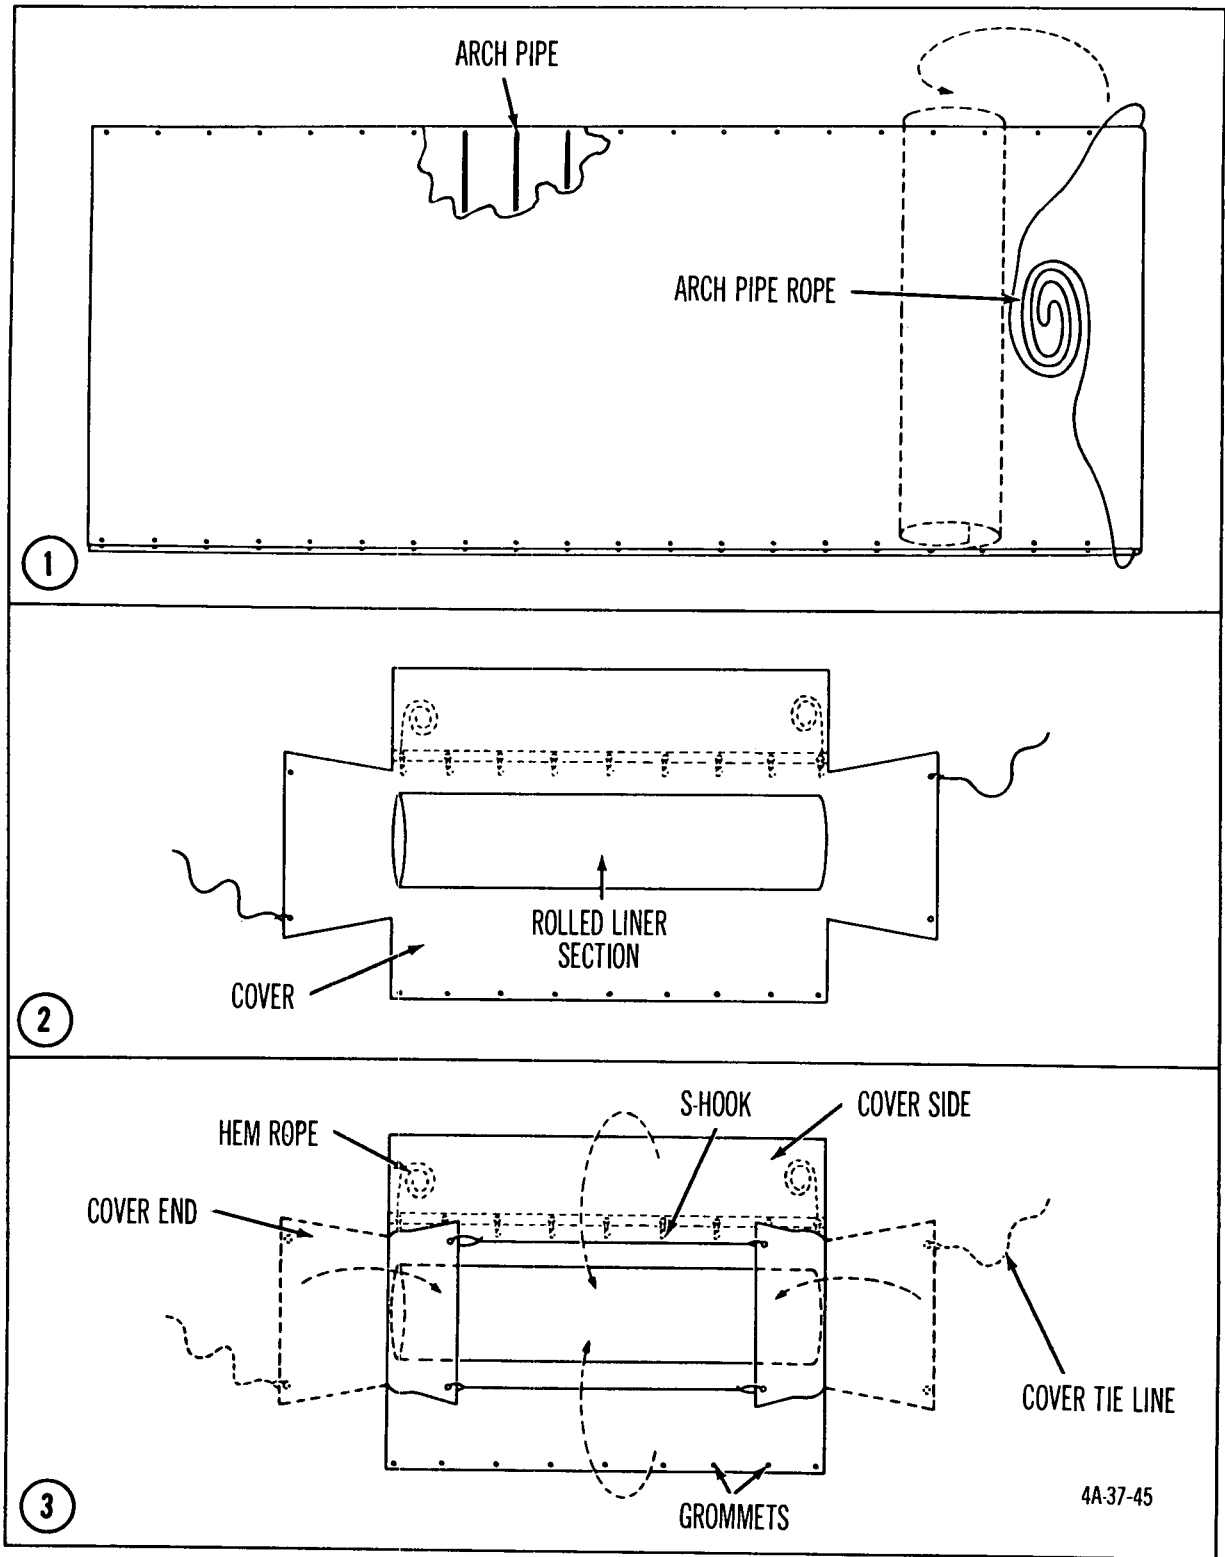

Figure 60. Rolling and packing liner intermediate section of tent, frame-type, maintenance, medium light metal.
(2) *Folding tent liner intermediate sections* (fig. 60).